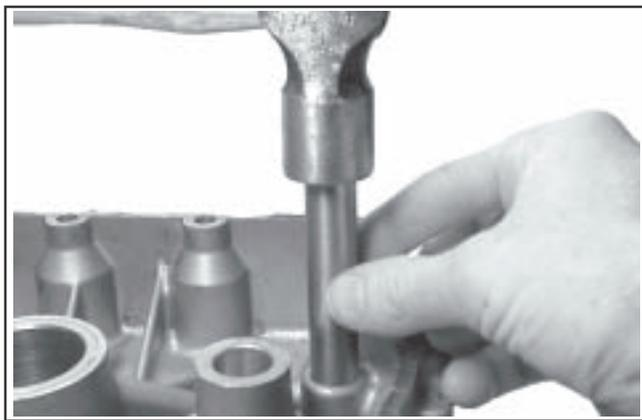

Figure 11-16. Inserting New Relief Valve into Bore of Closure Plate.
1. Use a piece of thin wall metal tubing or deep socket with a slightly smaller O.D. than the base. Press or tap the new relief valve into the bore of the closure plate until it bottoms. See Figure 11-16.